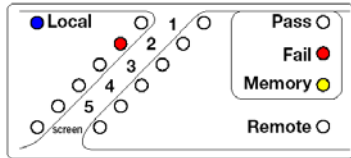

Fig 15. OPEN circuit between Local Pin2.
b) An open connection was found, usually indicated by a single LED (Fig15).